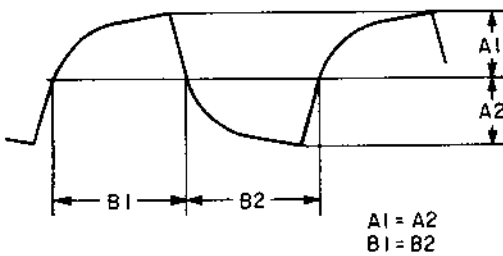

Fig. 2-26
(1) MODULATOR BALANCE ADJUSTMENT (Stop Mode)
- c) Adjust TC1 so that the positive and negative part of waveform is equal as shown in Fig. 2-26.
(2) FREQUENCY DEVIATION ADJUSTMENT